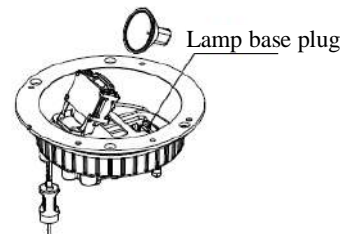

Figure 5-6
- Pull down the lamp base plug from the wire holder and dismount the lamp from its holder along the arrow direction (see Figure 5-6).